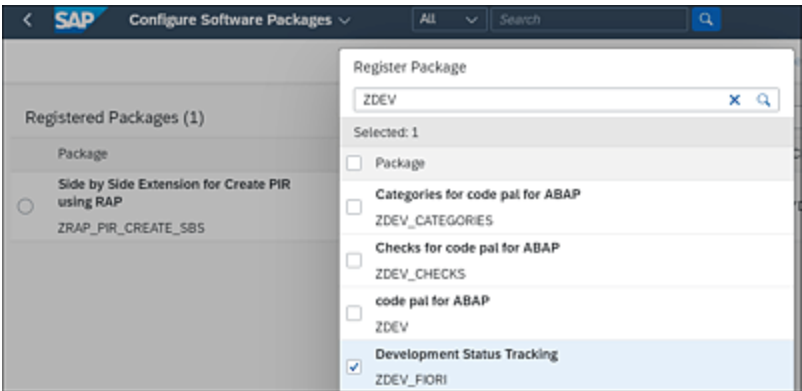

Figure 16.13 Register Package
1. Click on the **Add Registration** button, and choose the required package from the popup window, as shown in Figure 16.13. The package will be displayed in the **Register Package** list.